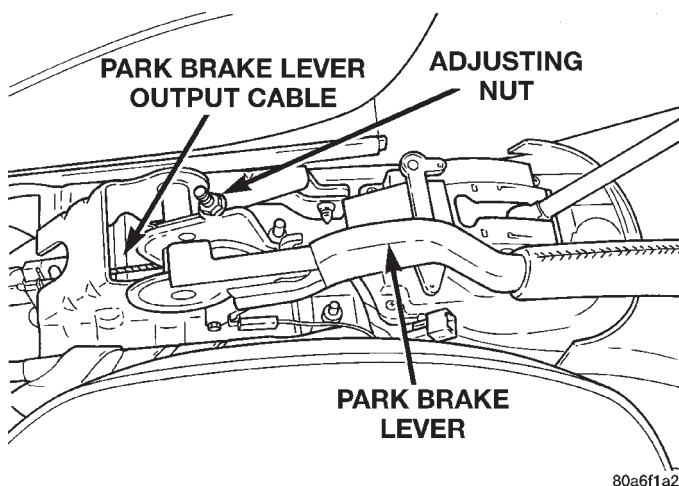

Fig. 190 Park Brake Lever Output Cable AdjustmentNut
- (5) Raise the park brake hand lever to approximately the half way point of its travel. This will provide the required clearance to remove center console.
- (6) Remove center console/arm rest from vehicle.
- (7) Lower park brake lever handle.
- (8) Loosen adjusting nut (Fig. 190) on park brake cable output cable. This will take tension off output cable, allowing it to be easily removed from tension equalizer.